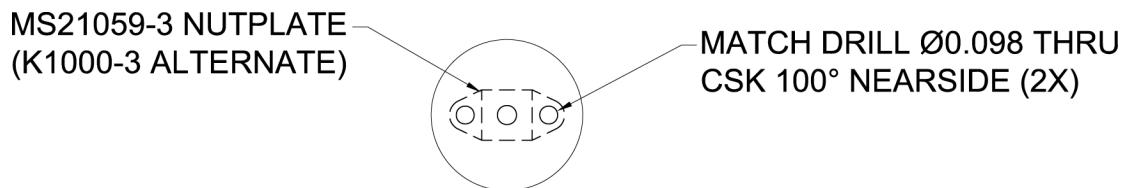

Figure A-15 Aligned Nutplate And Disk
10. Align one *stainless steel* nutplate MS21048-3 (or K1001-3) to each disk using the center hole as a guide. Match drill 0.098 holes to nutplate and countersink 100° on one side. Refer to Figure A-15.